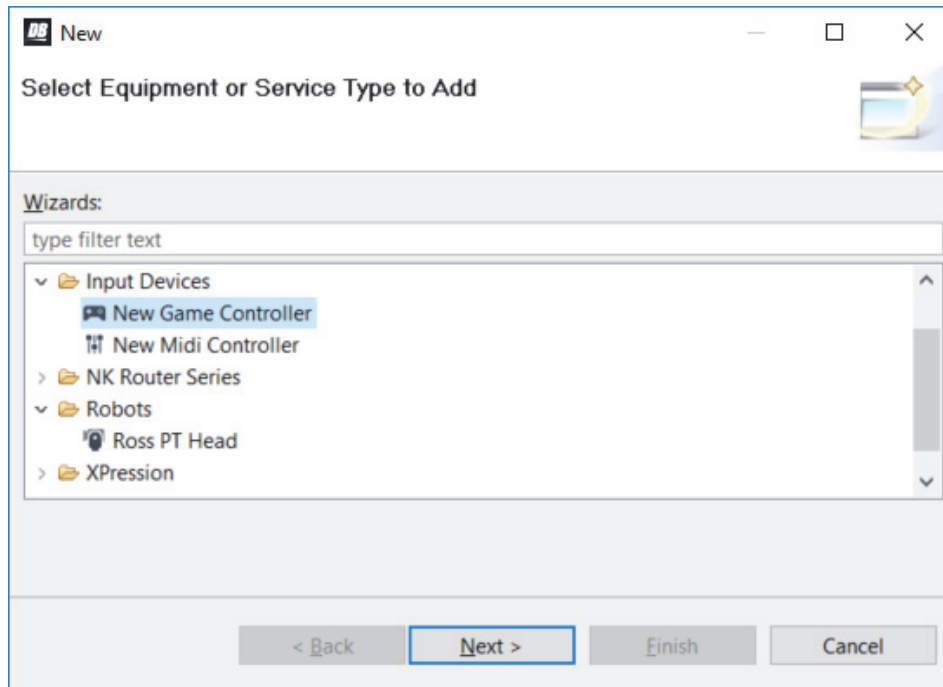

Figure 32 - Adding a USB controller
- In DashBoard, on the **File** menu, select **New**, and then select **Other**. The **New** dialog box appears (Figure 32).